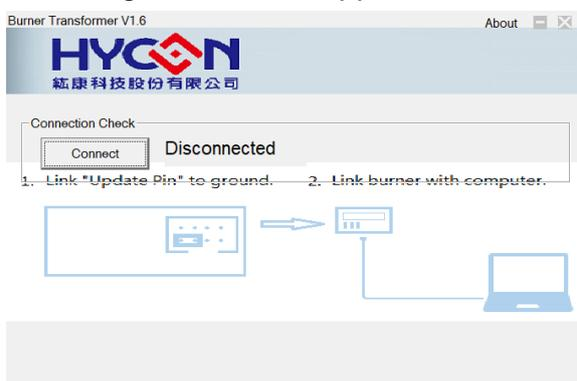

Figure 3-3a
(2) Connect the integrated writer to the computer through the USB cable, at this time, the LED lights on the writer will be off, after opening software  Burner Transformer, the interface as shown in Figure 3-3a will appear, and then click the “**connect**” button to connect.